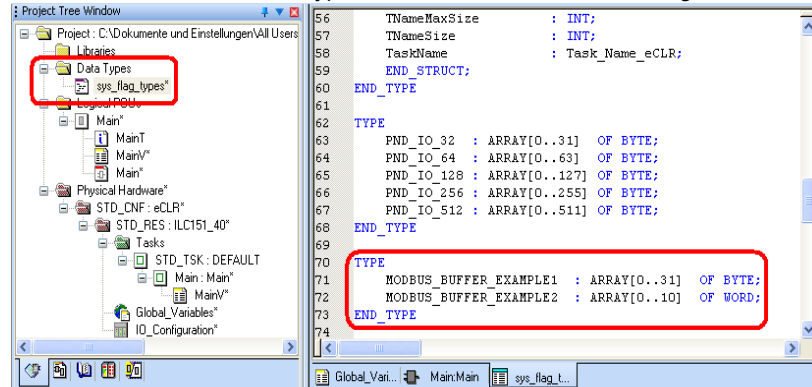

Figure 21-14 Creating data types
2. Define the desired data types and their sizes as shown in Figure 21-14.